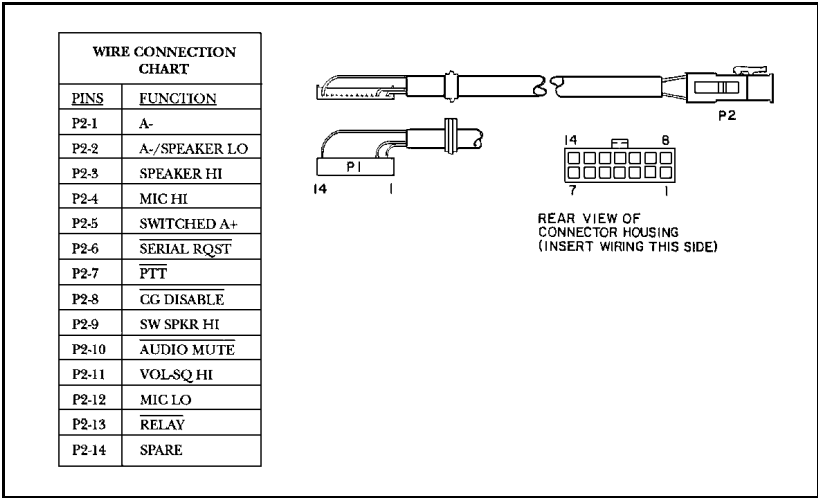

Figure 11 - Option Cable Pin Locations
The Option Cable brings all option connections from the System Board through the back of the radio to the outside. This cable is required with all external options. Supplied with the Option Cable is the empty connector housing which plugs into P2 of the Option Cable. Pins supplied on the ends of the wires of each option (Molex #39-00-0060) are inserted into this connector housing. Refer to the Interconnection Diagram in the back of this manual. See Figure 11 for pin locations.
4. Pins are supplied on the ends of the speaker leads. Push these pins into pins 2 and 9 of the connector housing supplied with the Option Cable. Refer to Figure 11.